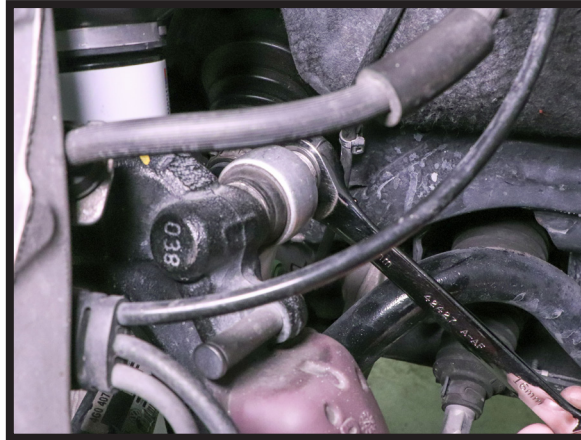

FIGURE 28
5. INSTALL THE SWAY BAR END LINK BOLT. (FIGURE 28)